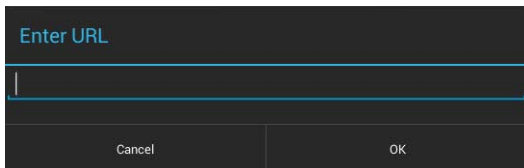

FIG. 32 Enter URL window
1. From the *Streaming Video* page, select *Enter URL* to open the *Enter URL* window (FIG. 32).